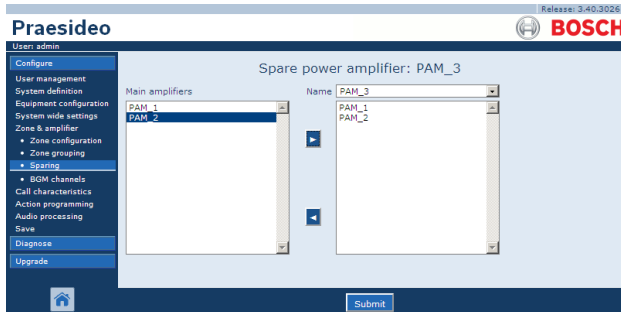

figure 45.14: Sparing, step 4
- Double click the selected main amplifier or click the > button to assign the main amplifier to the spare amplifier. A screen similar to the one in figure 45.14 appears in the main frame of the web interface.